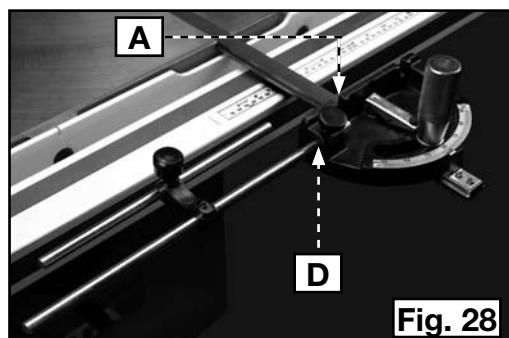

Fig. 28
2. Loosen the lock knob (A) Fig. 28 and insert the end of the stop rod (D) in the hole on the side of the miter gauge body.
3. Tighten the lock knob (A) Fig. 28.